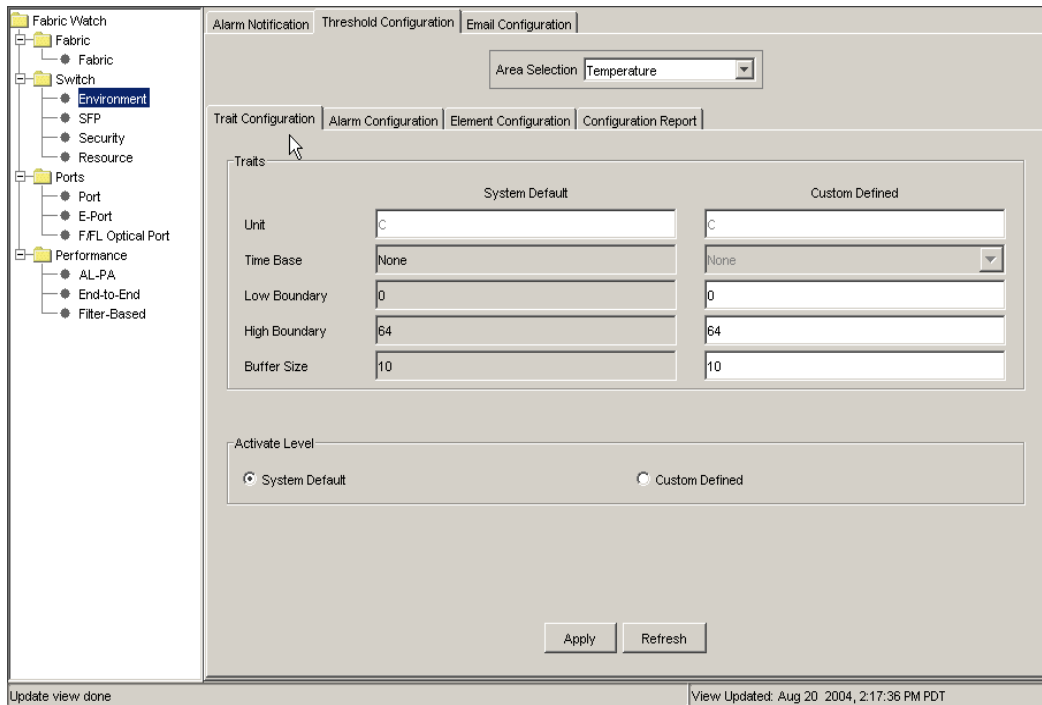

Figure 120 Trait configuration tab within the threshold configuration tab
Use the Trait Configuration subtab (see Figure 120) to view or set boundary conditions or thresholds for the areas that you select in the Threshold Configuration Tab. Table 45 lists and describes the components of the Trait Configuration tab.
3. Select the **Trait Configuration** subtab (see Figure 120 on page 181).